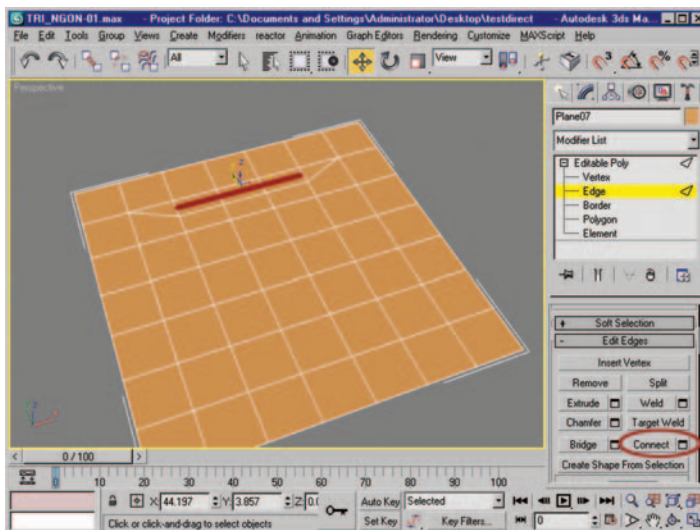

Figure 6.50 New edges highlighted after using Connect on an edge-ring selection.
9. Use Connect on the edge selection. Figure 6.50 shows the result of the connect.